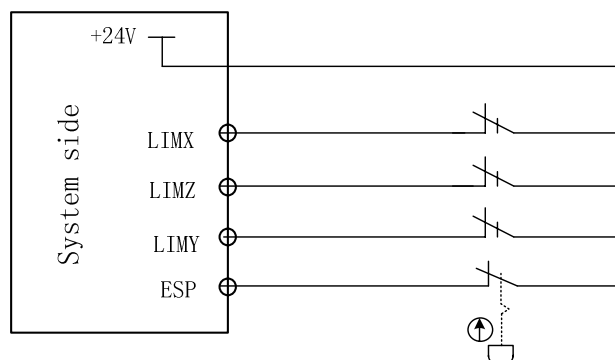

Fig. 2-34B Separate connection between the emergency stop and travel switch
(2) The separate connection between the emergency stop and travel switch is shown in Fig. 2-34B: